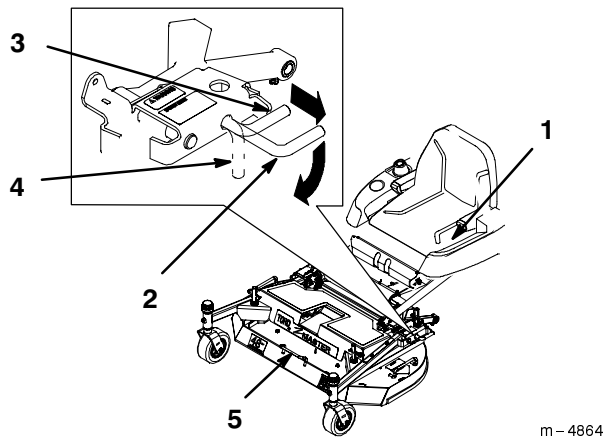

Figure 19
3. Pull out on latch pin to release and rotate into notch to hold in the open position (Fig. 19). Repeat on the other side. Lower rear of mower onto rollers.
1. Pull out latch pins and rotate into notch to hold in the open position (Fig. 19).
3. Rotate latch pins into released position and lift on side of carrier frame near latch pin until latch pin engages (Fig. 19). Repeat on the other side.